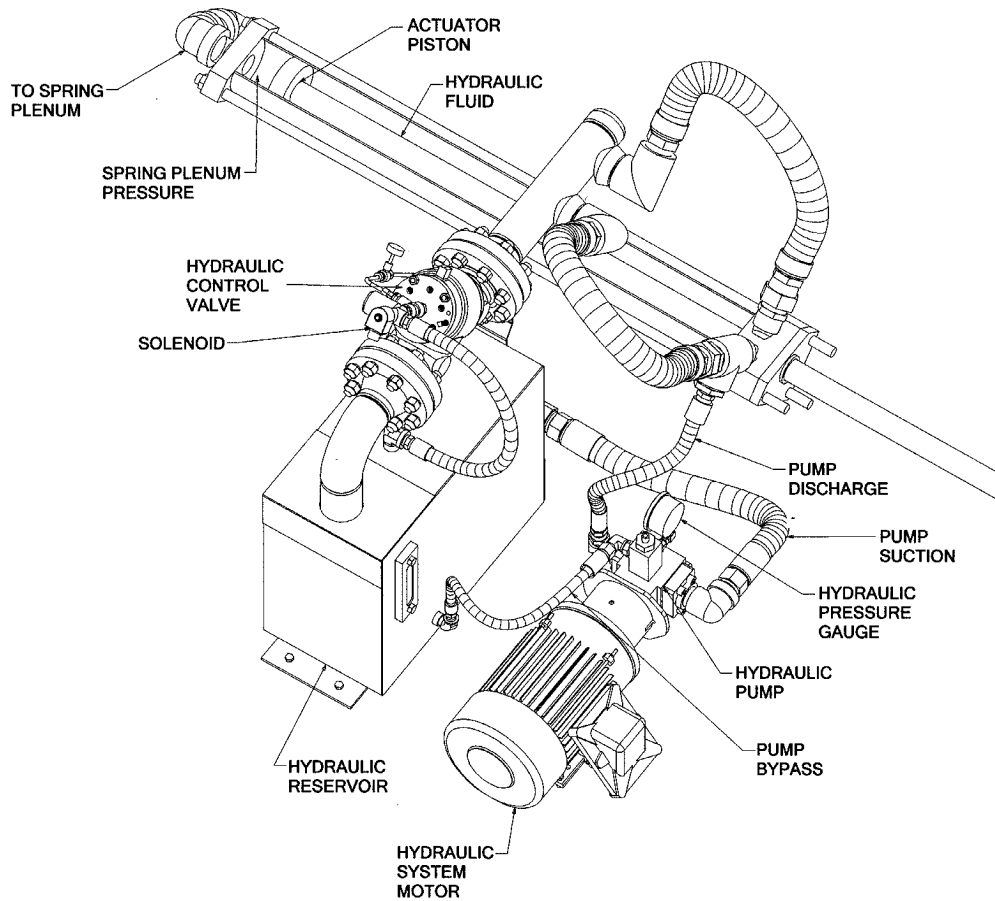

Figure 3-7. Hydraulic System
5. Turn on the hydraulic pump. The hydraulic pressure should build to 380-400 psig once the piston reaches the upstream (stand-by) position. This is verified by the hydraulic system pressure gage, typically located on the hydraulic pump (Figure 3-7).